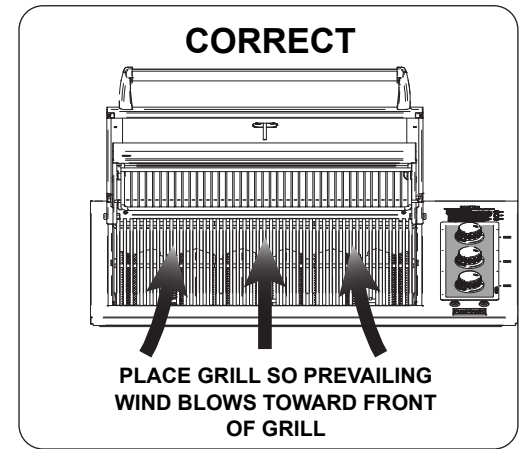

Fig. 20-1 Airflow direction - CORRECT
Proper airflow (front-to-back, Fig. 20-1) **MUST** be maintained for the unit to perform as it was designed. If airflow is blocked, overheating and poor combustion will result (see Fig. 20-2).
**CAUTION:** Wind blowing from the rear towards the front (Fig. 20-2) can cause poor performance and/or dangerous overheating. Install the grill so that the prevailing wind blows toward the front of the grill (Fig. 20-1).